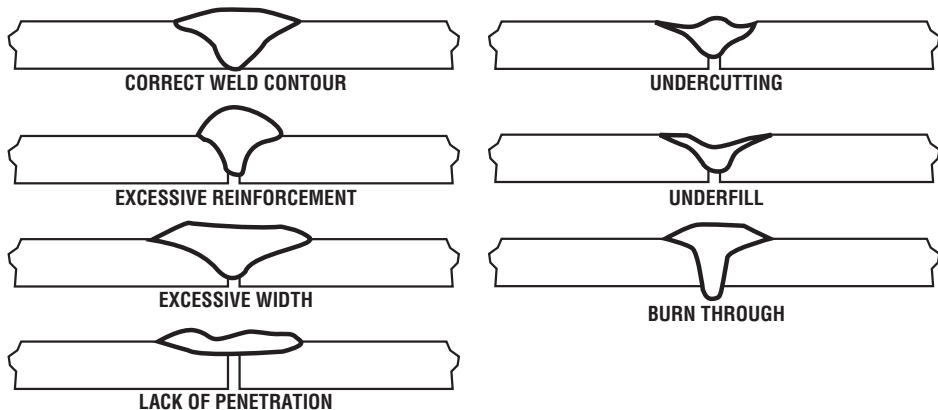

Figure 16: Characteristics of Good and Bad Welding Joints
- Since the angle of the nozzle flame is preheating the metals ahead of the weld, the last  $1/2$ " (12.7mm) of the weld is critical. Increase the addition of the filler rod to ensure a full smooth weld. Refer to Figure 16 for the visual characteristics of a good and bad weld joint.